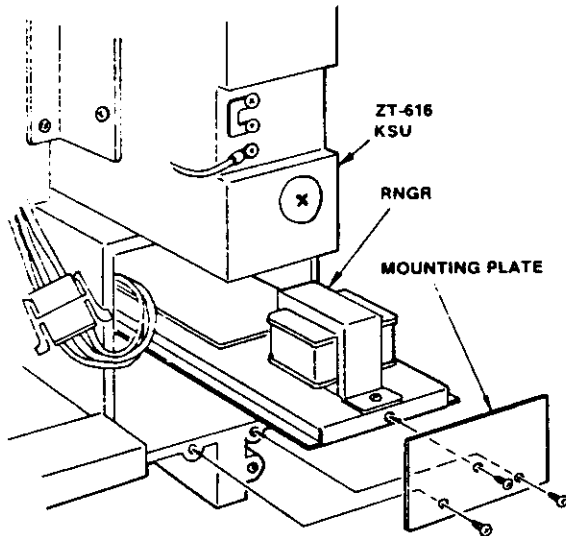

FIGURE 4-29
1. Slide the RNGER card into the right bottom space of the ZT-616KSU; affix the front to the base with two screws and a mounting plate provided as shown in Figure 4-29.